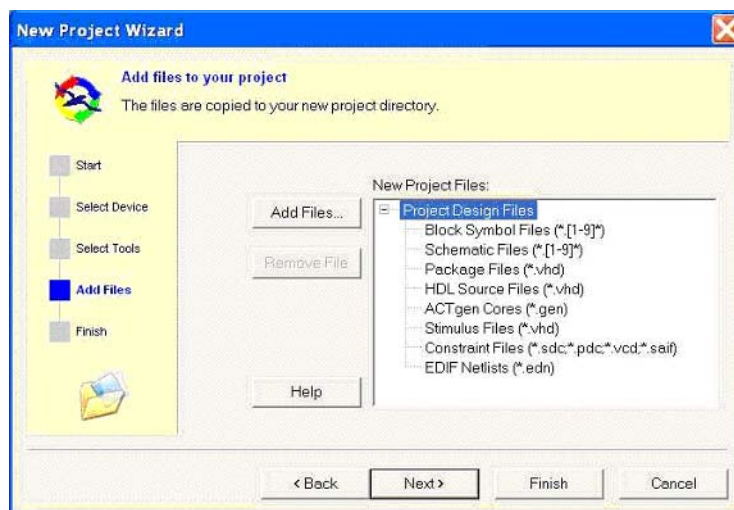

Figure 7-6 • Add Files in the New Project Wizard (Libero IDE)
12. Click **Add Files** in the New Project Wizard to add existing project design files. Include any ACTgen cores, Block Symbol Files, Schematic Files, VHDL Packages, HDL Source Files, Implementation files, and Stimulus Files (Figure 7-6).